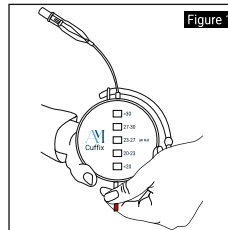

Figure 1
2. Activate the Cuffix by pulling out the protective film [Figure 1].